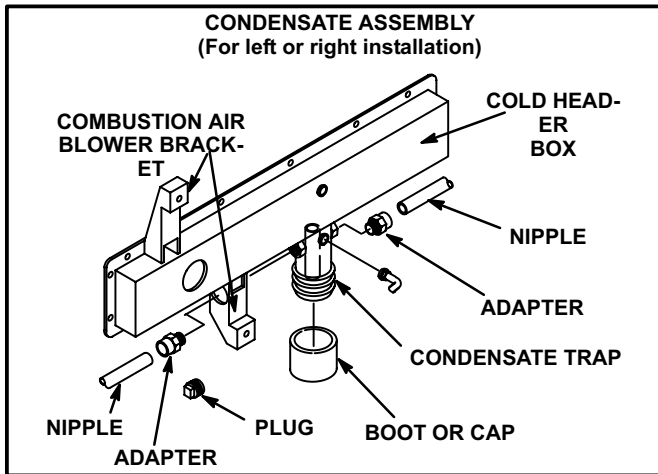

FIGURE 47
- 2 - Connect 1/2" (13mm) plastic pipe plug (provided) in the unused end of the condensate trap. Install plug so that it is sealed water tight yet able to be removed. Do not permanently seal the connection. Teflon tape is recommended to seal joint. See figure 47.